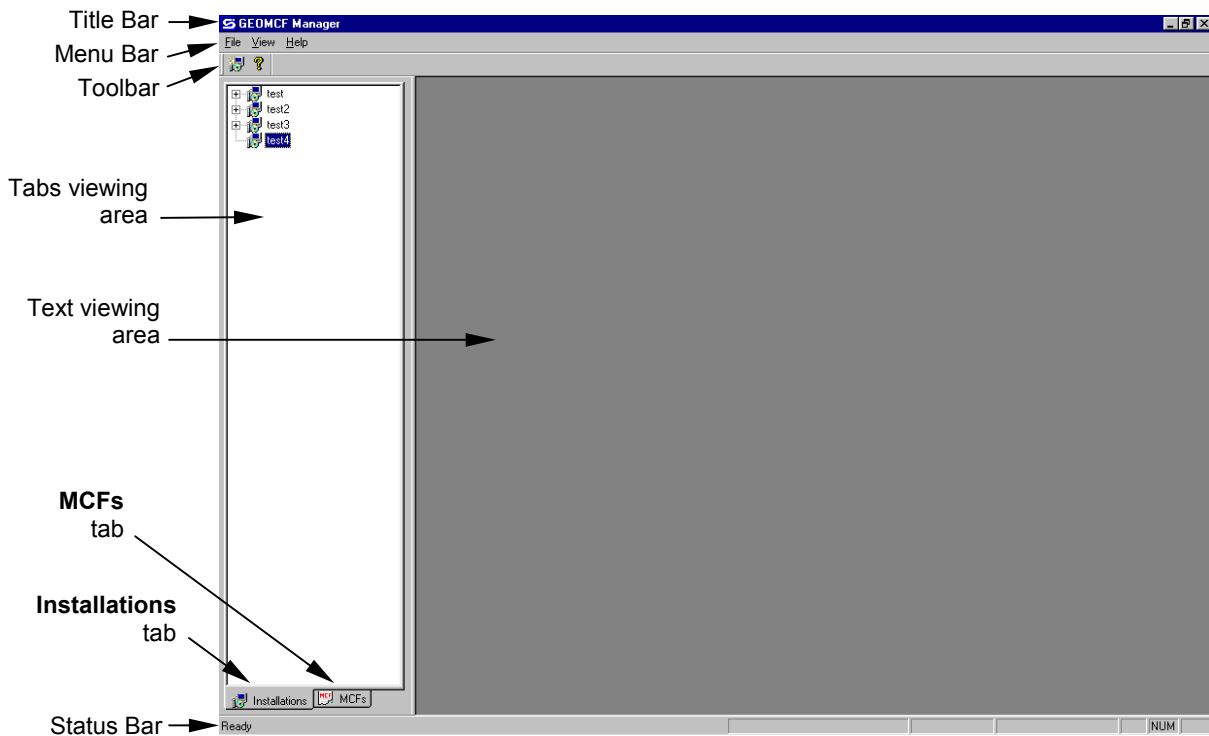

Figure 2-1
5. The GEOMCF Manager main screen is displayed (figure 2-1) with any currently installed configurations displayed in the Tabs viewing area on the left side of the screen.
The top 3 bars of the GEOMCF Manager main screen (refer back to figure 2-1) are: **Title Bar**, **Menu Bar**, and **Toolbar** (which can be enabled/disabled from the **View** menu). The main area of the screen is divided into the **Tabs** area and the **Text** area. At the bottom of the screen is the **Status Bar**, which can be enabled/disabled from the **View** menu. The main screen components are discussed in the paragraphs that follow.